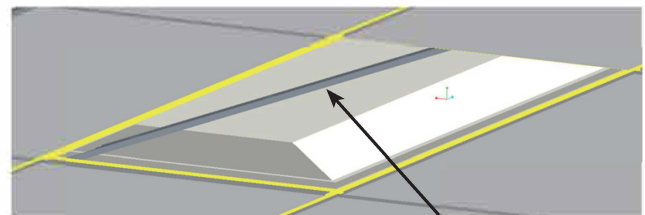

Fig. 1 Tee-Grid Bar
2. Gently lift the original luminaire housing and slide in both side brackets between the **housing** and the T-grid. Lower the housing to rest on the brackets, securing them in place. (fig. 1 & 2)